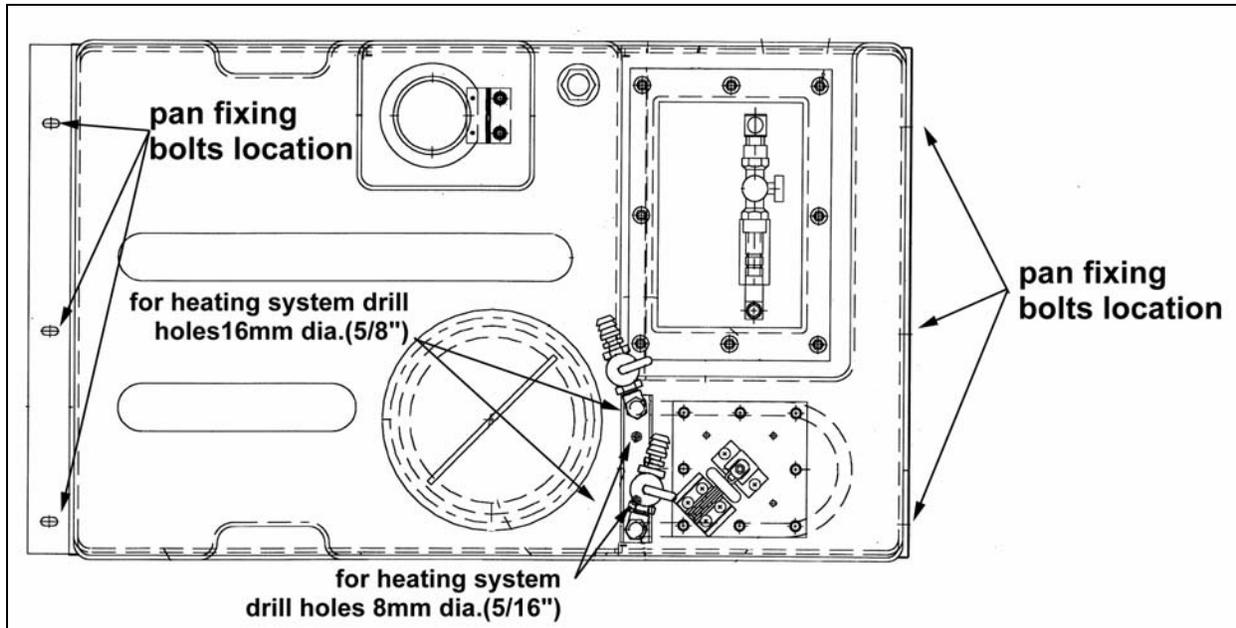

FIGURE 6 : TOP VIEW OF THE SUMP TANK
14. Unscrew the 6 bolts on the sump tank pan (figure 6) and remove the pan from underneath the vehicle.
19. For sump tank equipped with the heating system, drill holes on the new sump tank for the heating coil installation. Use the alignment marks and drill 2 holes $\varnothing 8\text{mm}(5/16\text{'})$ and 2 holes $\varnothing 16\text{mm}(5/8\text{'})$ (figure 6).
23. Put back the pan and sump tank assembly underneath the vehicle structure and screw the 6 bolts on the sump tank pan (figure 6).